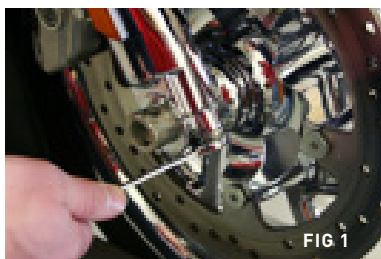

FIG 1
2. Remove (2) 5/16-18 nuts, (2) 5/16 lockwashers, and (2) 5/16 washers located on the threaded studs on the bottom of the right fork leg. **(Fig 1)**